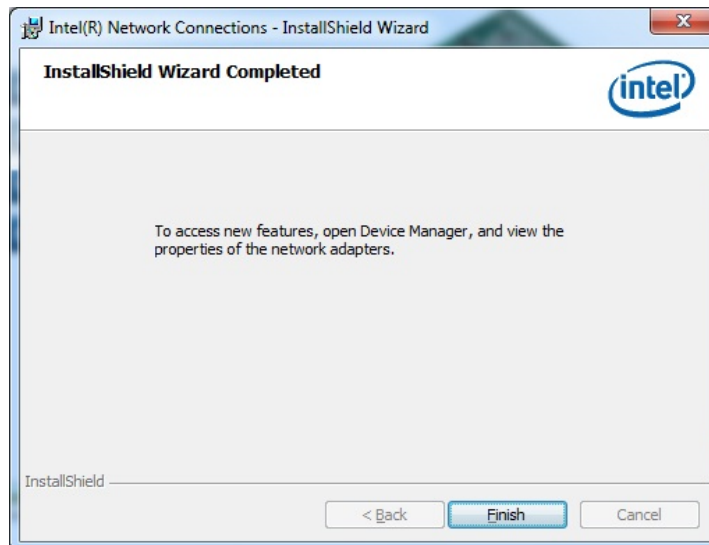

Figure 6-13: LAN Driver Installation Complete
Step 18: When the driver installation is complete, the screen in **Figure 6-13** appears.